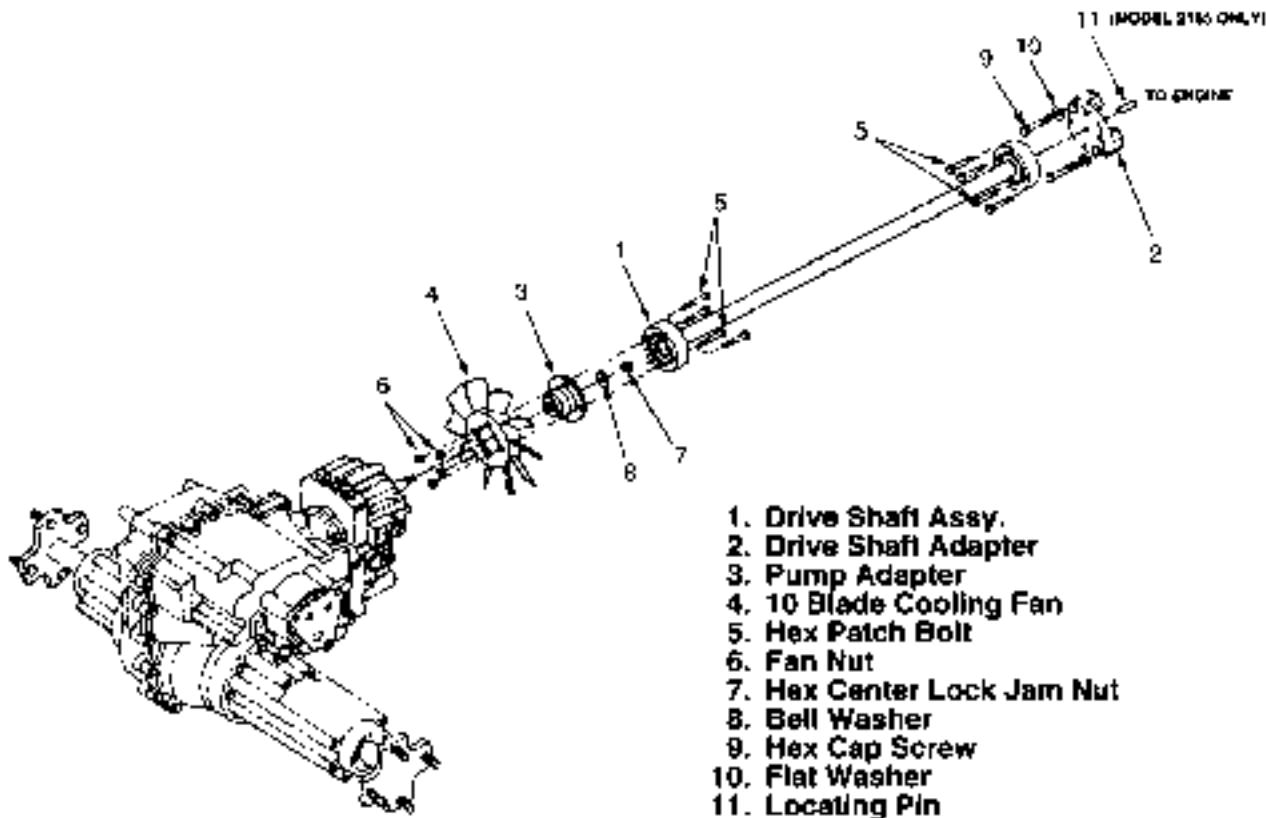

Figure 5-26. Drive Line (Models 2135, 2145, 2165 and 2185).
- 6 Remove the drive shaft assy. (1, Fig. 5-26) as follows: